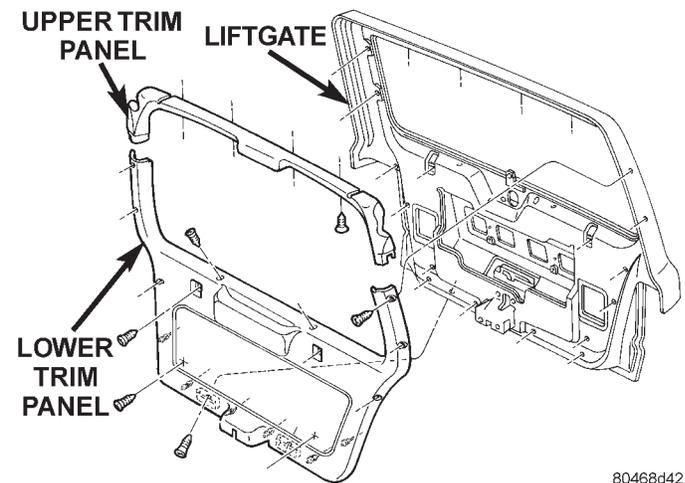

Fig. 11 Liftgate Trim Panel Remove/Install
(1) Disconnect and isolate the battery negative cable.
(2) Open the liftgate.
(3) Remove the screws that secure the liftgate lower trim panel to the liftgate inner panel (Fig. 11).